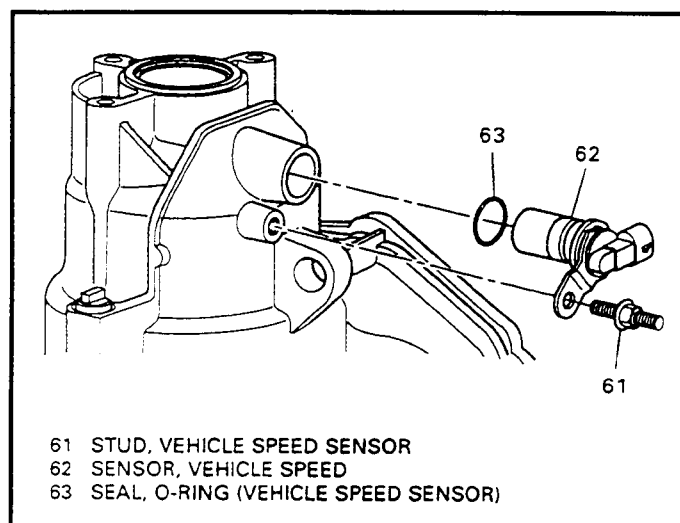

Figure 47
16. Remove the speed sensor stud (61), the speed sensor assembly (62) and "O" ring, as shown in Figure 47.
17. Pull the speed sensor assembly straight out of the transaxle case to prevent damage to the case bore (See Figure 47).